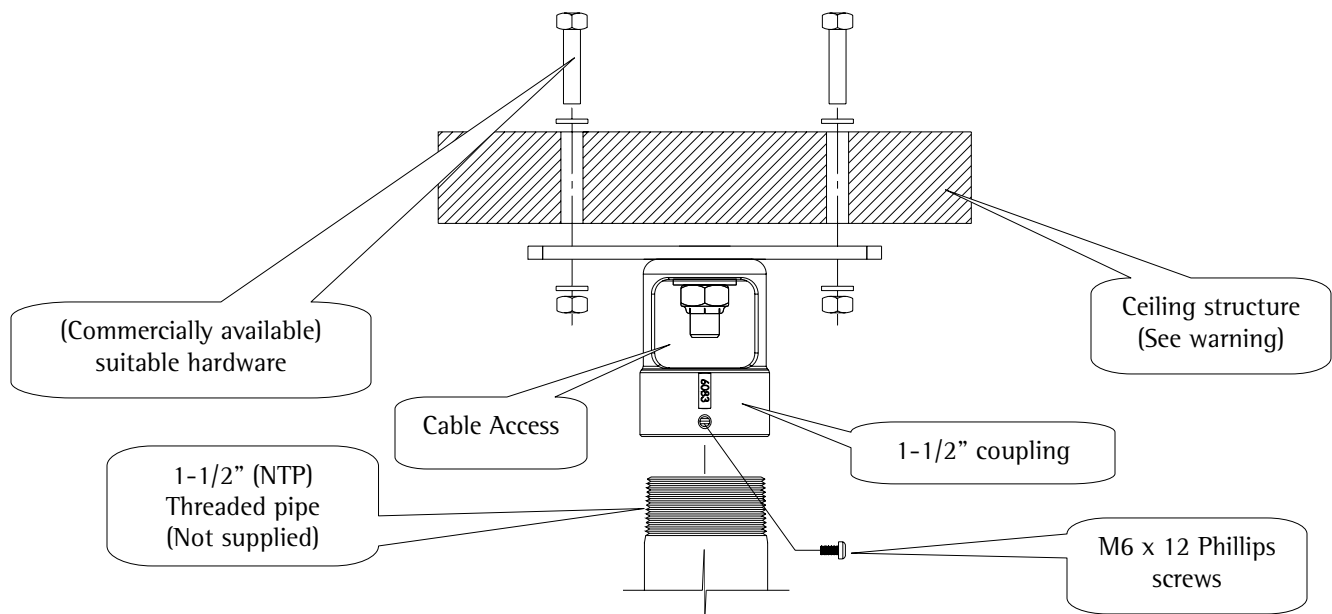

Figure 2
3. See Figure 2 for cable access and 360° rotation.